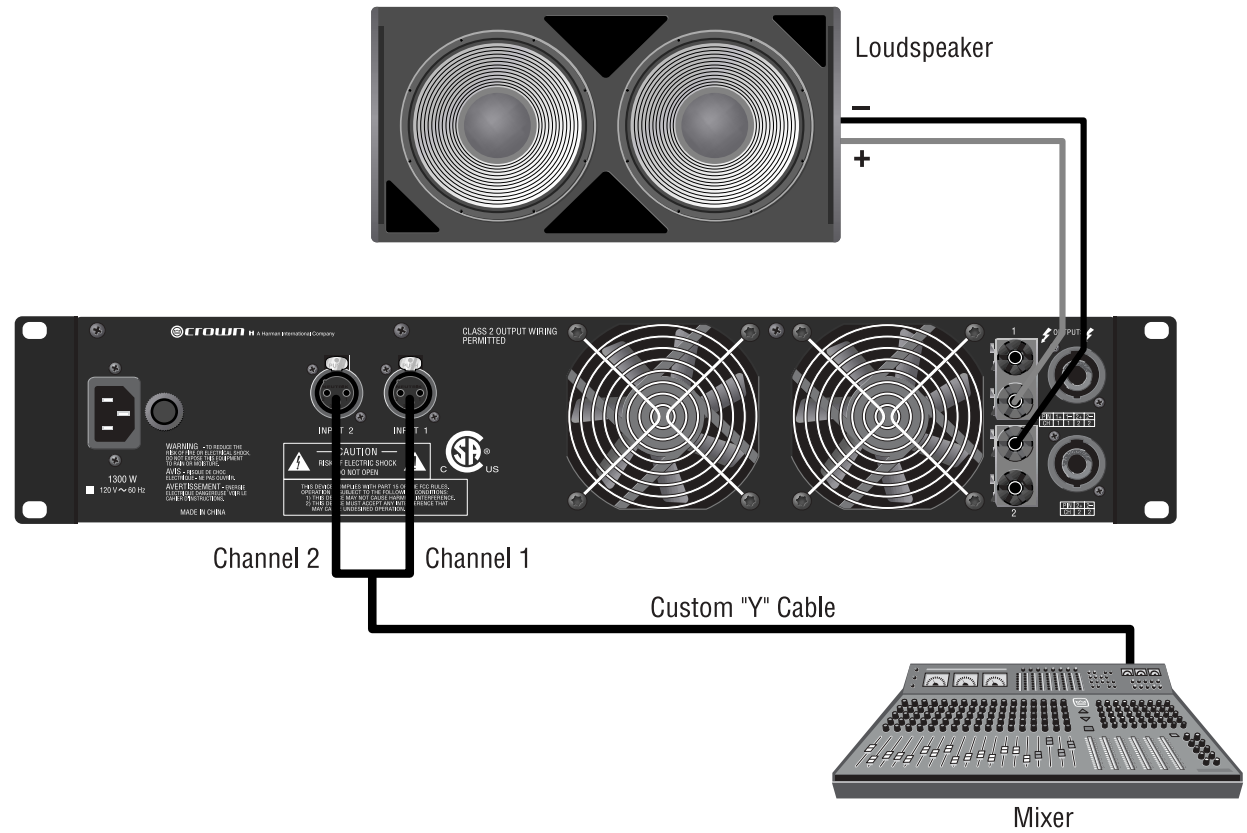

Figure 2.11 Bridge-Mono Wiring of 5-Way Binding Posts
Connect the Y adapter between the signal source and each amplifier input (Figure 2.11).
- 1) Wire the speaker across the red binding post of each channel (Figure 2.11). Do not use the black binding posts when the amp is being operated in Bridge-Mono mode.